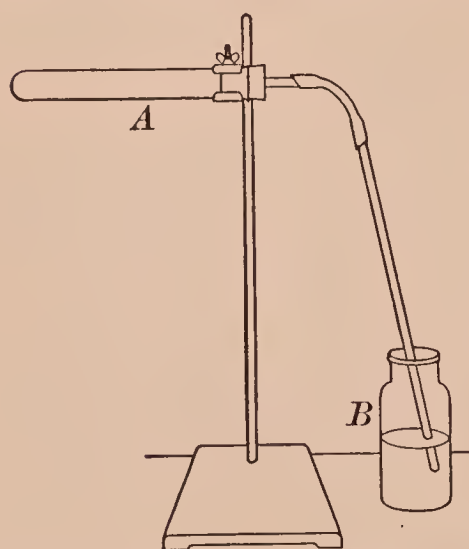

FIG. 12. — Apparatus for reducing copper oxide with carbon
**APPARATUS.** — As in Fig. 12, lens.
creased paper (refer to Figs. 4, 5) and slip it into the test tube *A*. Fill the bottle *B* half full of calcium hydroxide solution. Arrange the apparatus as in Fig. 12.